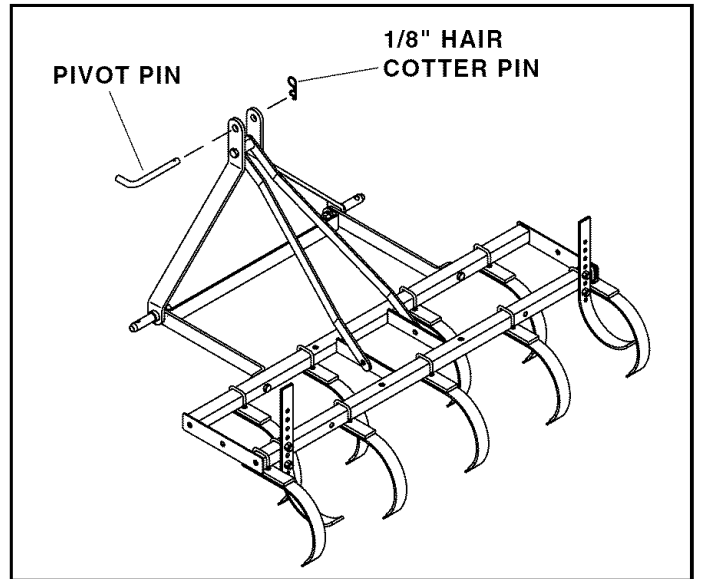

FIGURE 6
- Install the pivot pin through the upper hole at the end of the mast sides. Secure the pivot pin with a 1/8" hair cotter pin. See figure 6.